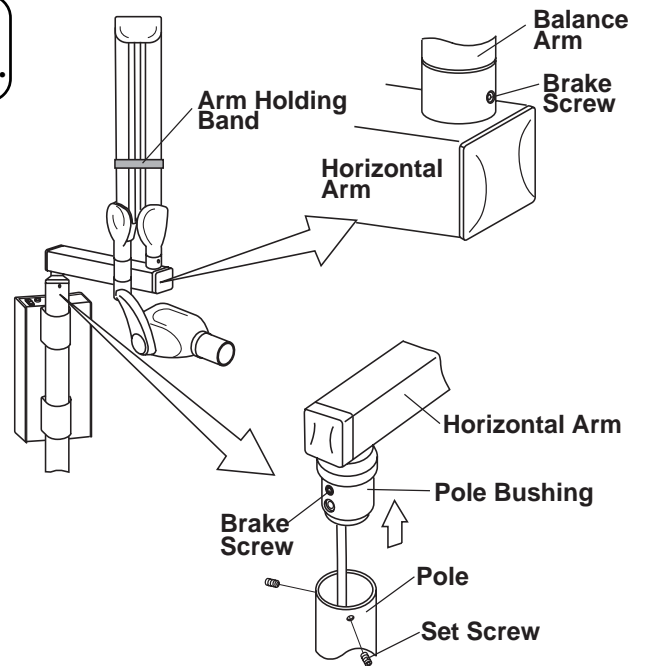

Fig.4-2 Swing Friction Adjustment for FK1/FK2
B. SWING FRICTION ADJUSTMENT FOR FK1/FK2 TYPE (Fig.4-2)